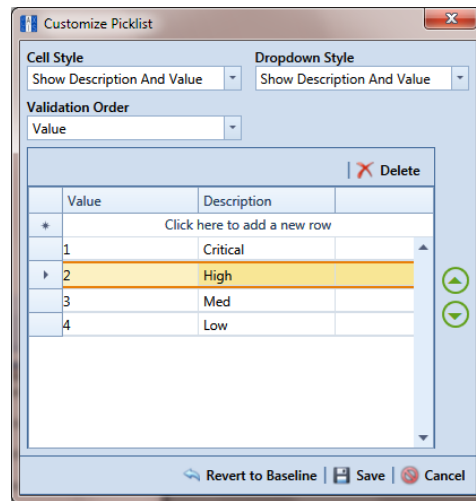

Figure 3-42. Customize Picklist
- 6 Click the edit icon  again for the data entry field converted earlier to a picklist to open the *Customize Picklist* dialog box (Figure 3-42).
- a** Click the message *Click here to add new row* to add an empty row of fields for data entry (Figure 3-42, page 85).